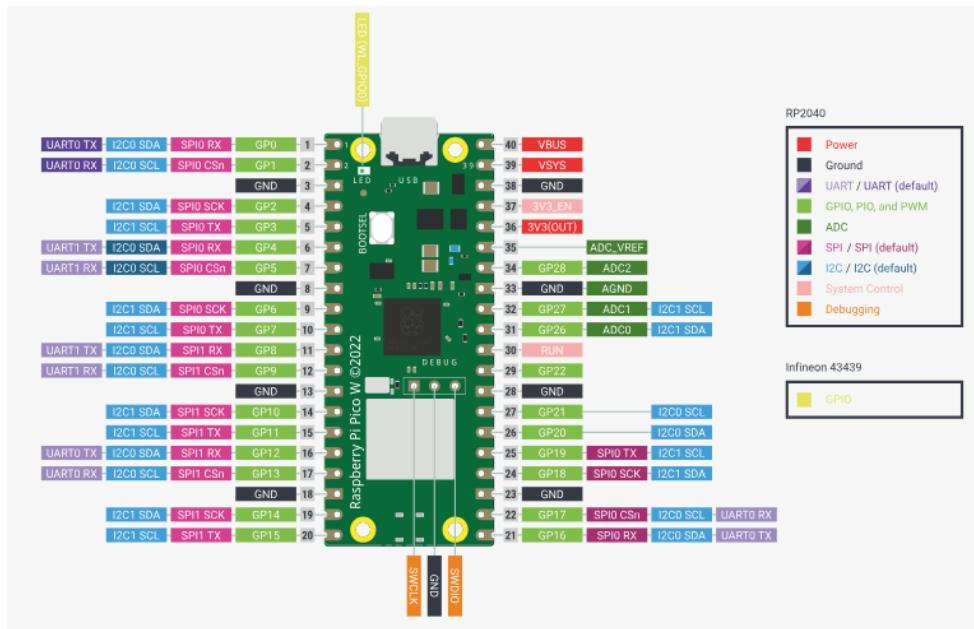

Fig. 12.1: PICOW Pin Diagram
9. See Fig. 12.1 for the picow pin diagram. You may reuse all the Arduino codes for pico by changing only the platformio.ini file.